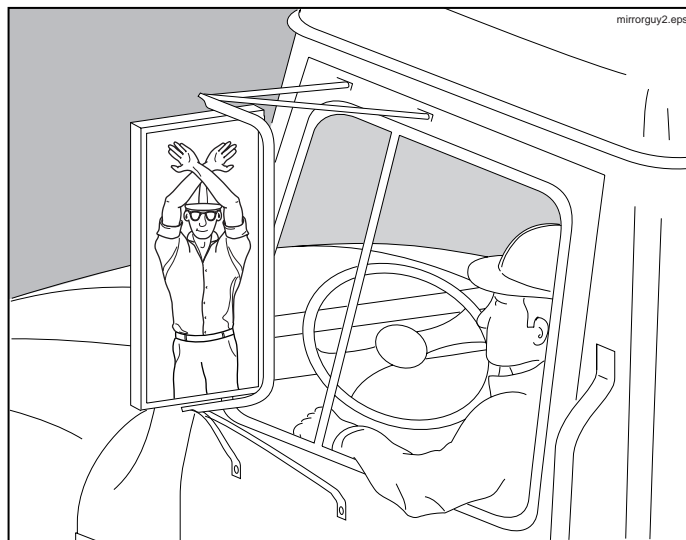

Figure 8
3.2 ⚠️ WARNING! Crushing hazard. Do not get closer than 10 feet to the pump unless you have a clear view of the spotter who is directing you. If you lose sight of the spotter, **STOP IMMEDIATELY.** Do NOT continue to back up until line-of-sight has been reestablished. See Figure 8.